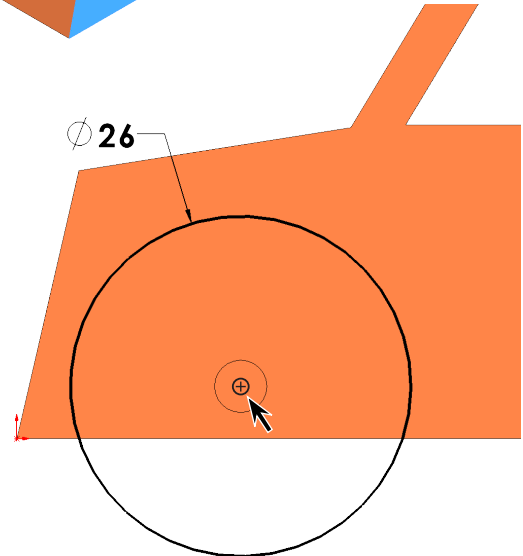

Fig. 6
Step 3. Click **Circle**  (S) on the Sketch toolbar.
Step 4. Sketch **circle at front axle centerpoint**, **Fig. 6**.
Step 5. Click **Smart Dimension**  (S) on the Sketch toolbar.
Step 6. Dimension **diameter 26**, **Fig. 6**.
Step 7. Click **Line**  (L) on the Sketch toolbar.